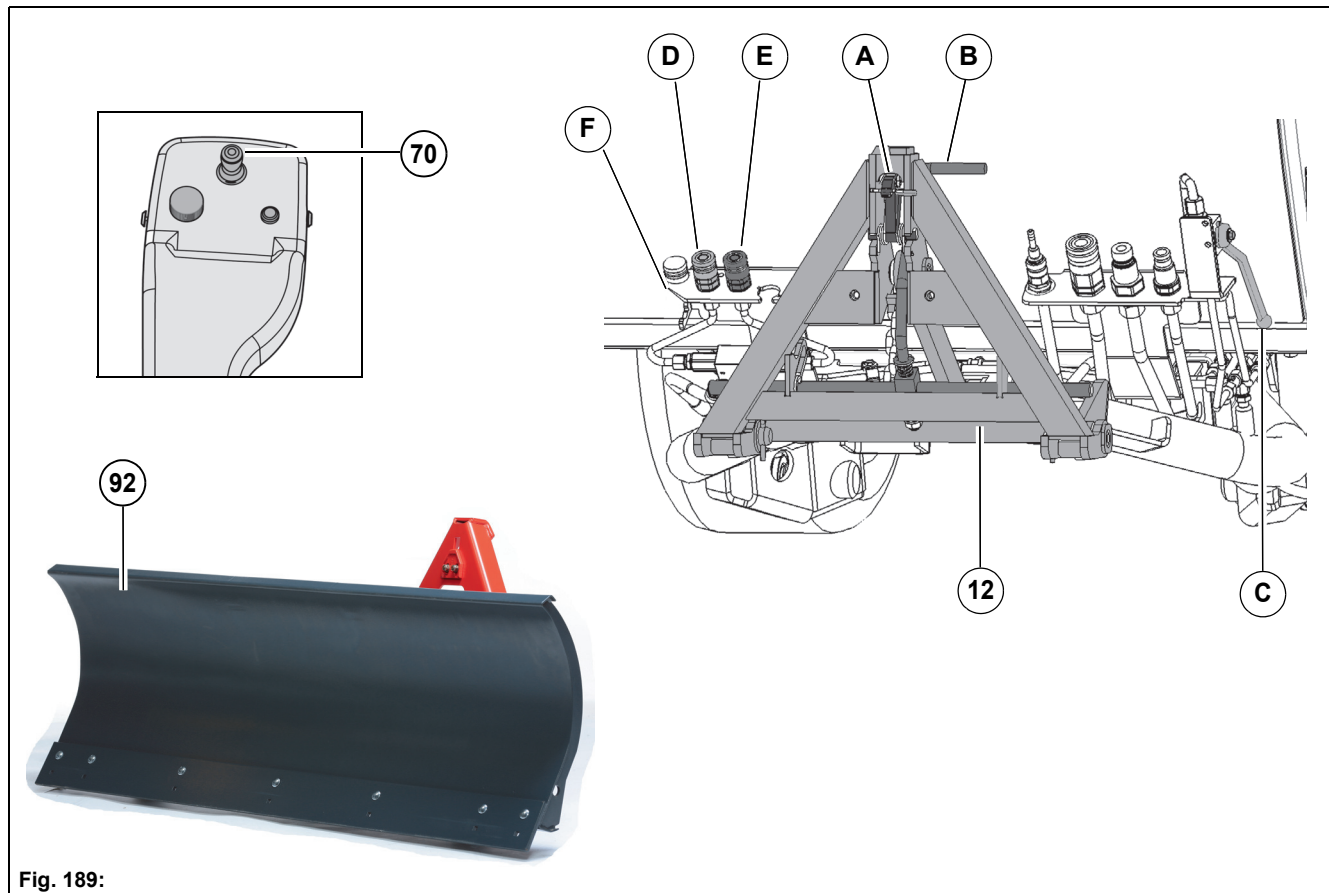

Fig. 189:
2. Unlock the locking hook **Fig. 189-A** and locking rod **Fig. 189-B** on the front tool carrier **Fig. 189-12**.
6. Close the valve **Fig. 189-C** for the suction mouth lift system.
- Swivel snow blade – supply = **Fig. 189-D**
- Swivel snow blade – return = **Fig. 189-E**
- Coding plug X 63 = **Fig. 189-F**